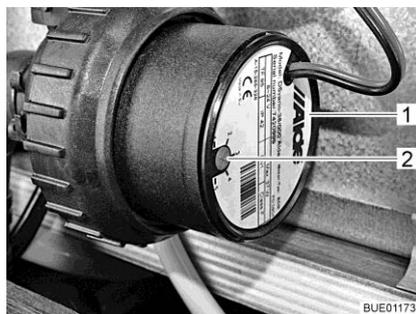

Fig. 215 Speed reduction
The rotational speed of the circulating pump can be set with the control knob (Fig. 215,2). At a lower rotary speed, the operating sounds of the pump are quieter.
The control knob is located on the circulating pump (Fig. 215,1).
- Turn the control knob (Fig. 215,2) in an anticlockwise direction. The output is reduced.